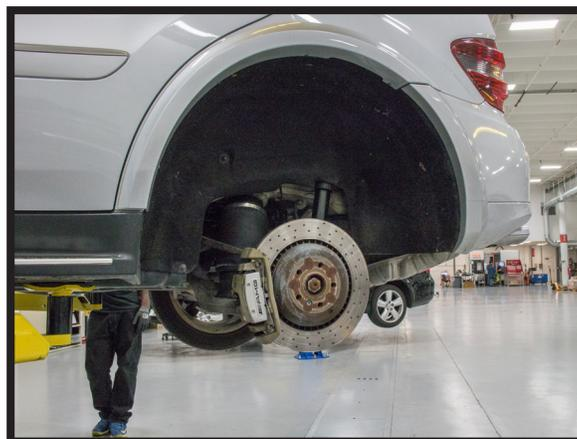

FIGURE 1
2. REMOVE REAR WHEEL FROM THE APPLICABLE SIDE BEING REPLACED. (FIGURE 1)